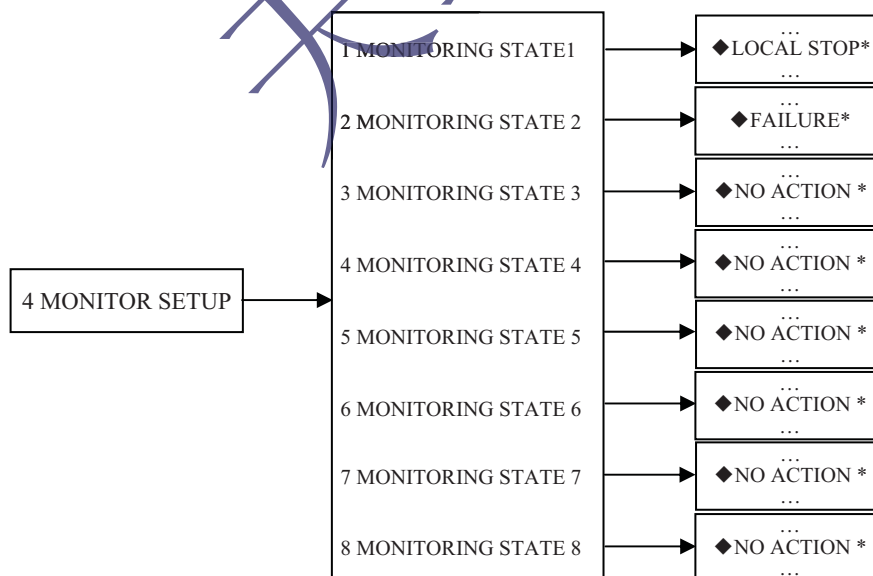

Fig.7
4.5 Monitoring setup (see Fig.7, Applicable actions for monitoring relay RL0 are in the following table)